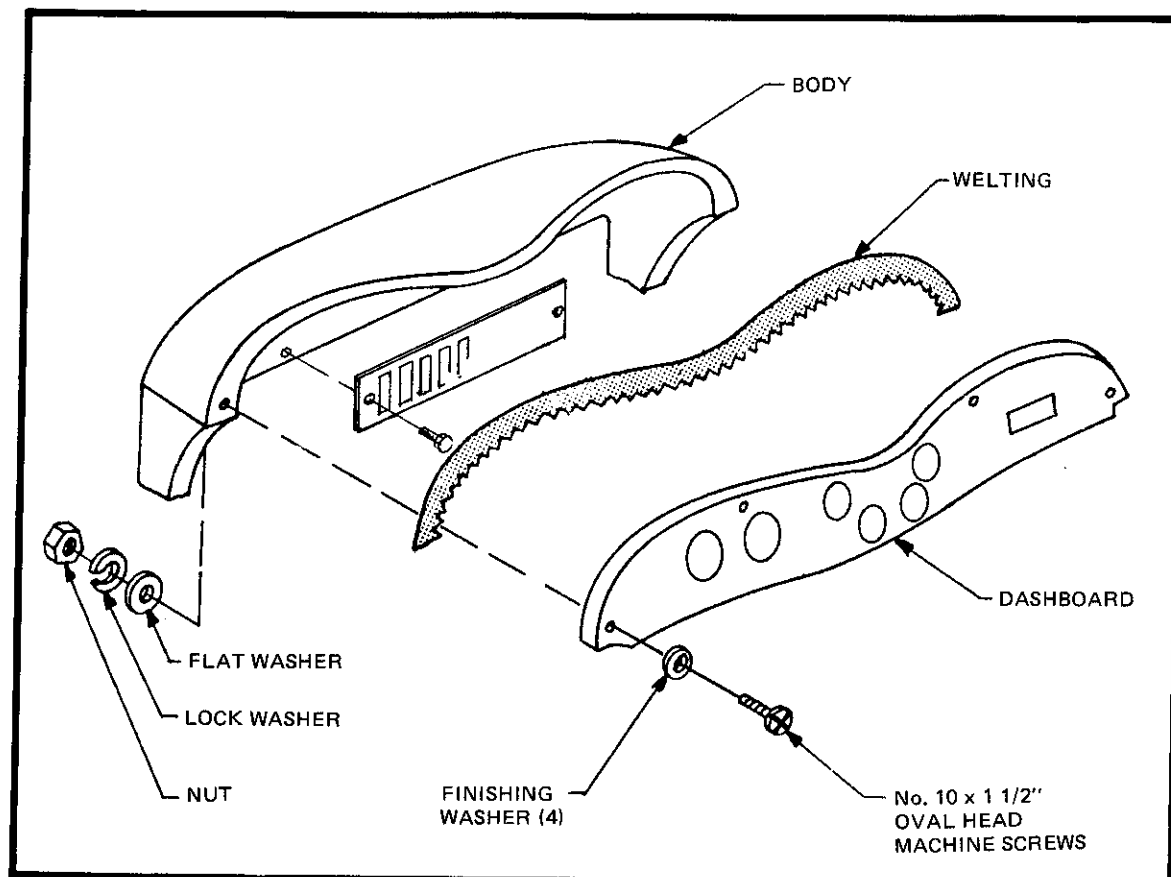

Figure 59
- ☐ Align the dashboard with the body, cutting a recess for the steering column as necessary. Drill 4 holes, 3/16", approximately at the locations shown. (Figure 59) Bolt in place using No. 10 x 1 1/2" oval head machine screws with finishing washer, flat washer, lock washer and nut. Do not tighten all the way. Cut a piece of welting to length and insert between dash and body, notching where necessary to prevent kinks. Tighten bolts.